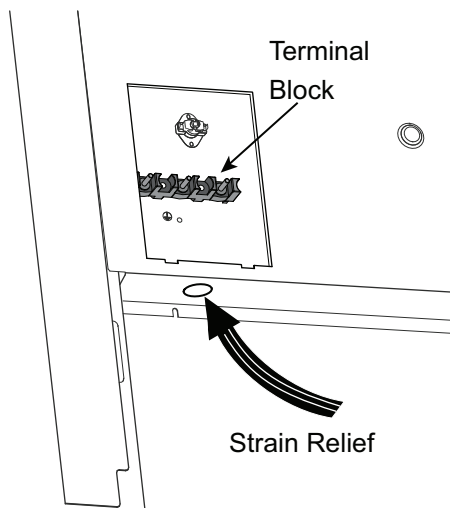

Figure 16: Strain Relief Location
Locate the terminal block on the rear of the unit and remove cover (refer to *Figure 16*). The conduit must be installed to the terminal block using an approved conduit connector. The free end of the conduit must be connected to a terminal block provided in the electrical supply zone, as shown in *Figure 4 on page 8*.
Mount a strain relief (not provided) into the 1" (25.4 mm) diameter hole located below the terminal block (see *Figure 16*). Wiring for the unit is to be brought into the terminal block through the conduit and through the strain relief. The ends of the wiring must have 1/4" (6 mm) faston closed-loop lugs attached, preferably soldered in place. Make the connections to the terminal block provided.
1. Locate the terminal block on the rear of the unit and remove cover (see *Figure 16*).